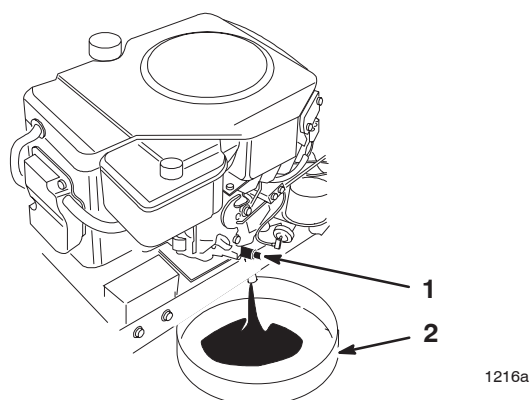

Figure 33
5. Open the oil drain valve (Fig. 33).